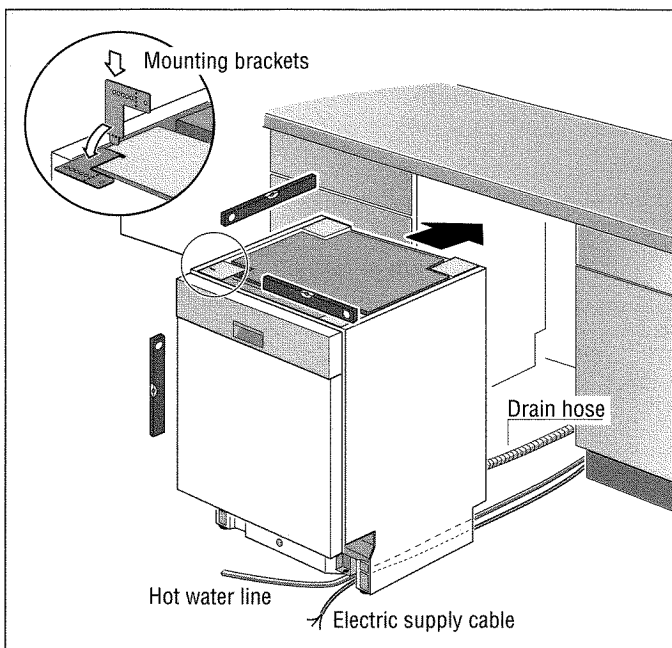

Figure 10.
1. Determine how the mounting brackets will be placed. The brackets may be placed so as to fasten to the underside of the counter top, in Figure 8, or, the brackets may be bent and set to fasten to the side of the cabinet opening as, Figure 9. The dishwasher should be mounted to the side of the cabinet if there is a granite, marble or other hard natural surface counter top that could be damaged by drilling. Once decided, set the mounting brackets before sliding the dishwasher into place, see Figure 10.
2. Straighten the hot water supply line and the electrical cable so that it can be easily pulled through the channel under the dishwasher. See Figure 10.